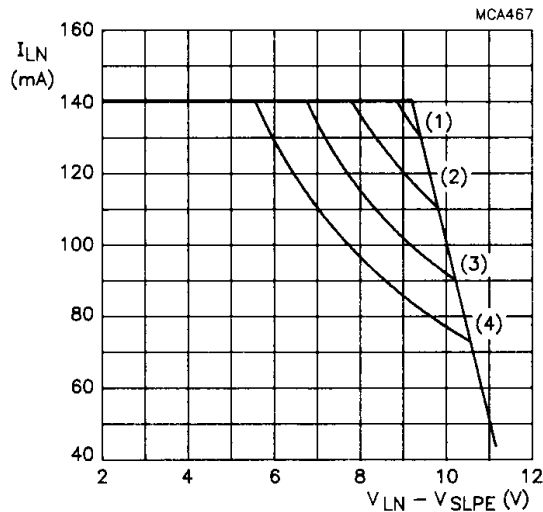

Fig.3 TEA1060/1061 safe operating area.
1. Mostly dependent on the maximum required T_{amb} and the voltage between LN and SLPE (see Fig.3).